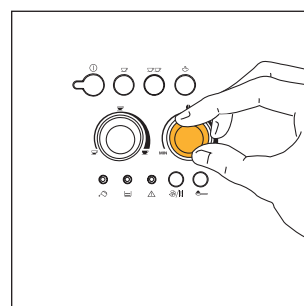

Fig.7
- 2) Adjust the right-hand knob (Fig. 7) to set the desired taste of the coffee. Turning the knob clockwise increases the quantity of coffee beans that the machine will grind, and thus makes the taste of the coffee stronger. When using the machine for the first time, the correct position of the knob can be found by trial and error. Make sure not to turn it too far clockwise, otherwise the coffee will be delivered too slowly (in drops), above all when preparing two cups of coffee.
NOTE 2: If the coffee is delivered too fast and is not creamy enough, turn the right-hand knob (fig. 7) clockwise. Proceed by trial and error to find the correct position of the knob. Make sure not to turn the knob too far clockwise, otherwise the delivery may become too slow (in drops), above all when making two cups of coffee. If, after several coffees, the cream is still not satisfactory, also turn the grinding adjustment knob (Fig. 17) one click clockwise (see para. 6).